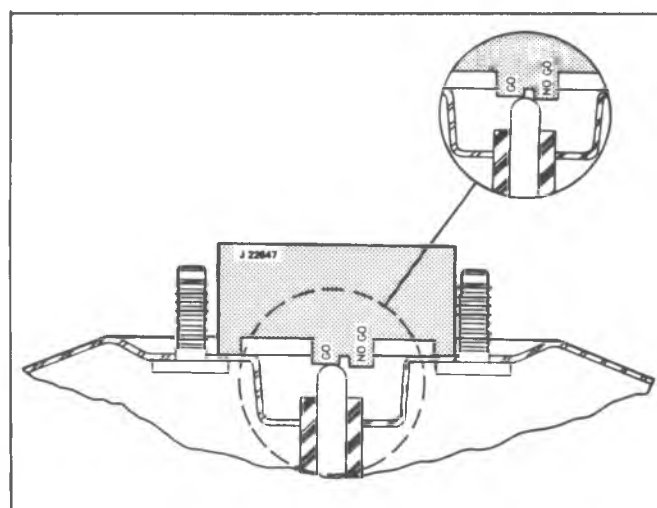

Fig. 5-11A—Gaging Piston Rod
4. Place Gage J-22647 over the piston rod in a position which will allow the gage to be slipped to the left or right without contacting the studs (fig. 5-11A).